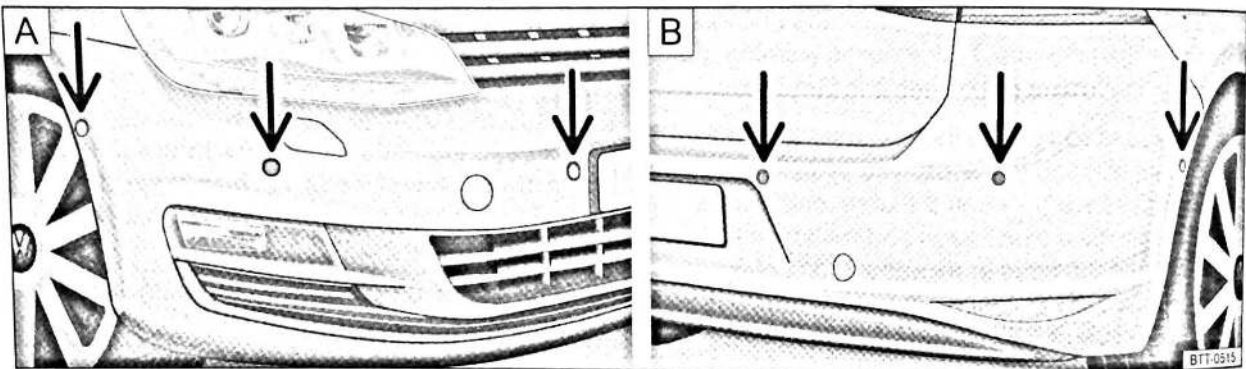

Fig. 147 ParkPilot ultrasound sensors around the vehicle, A: in the front bumper, B: in the rear bumper
The ParkPilot uses ultrasound sensors to determine the distance between the front and rear bumpers and an obstacle. Up to 6 ultrasound sensors for the ParkPilot (arrows) are located in both the front (A) and rear (B) bumpers $\Rightarrow$ Fig. 147.